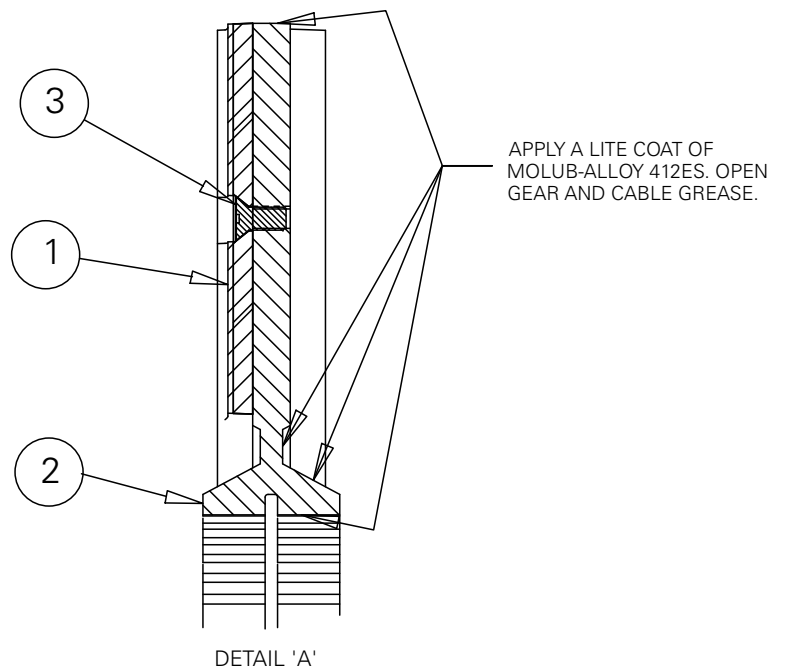

Figure 17
*Reference Figure 1 and Figure 17 for Item numbers